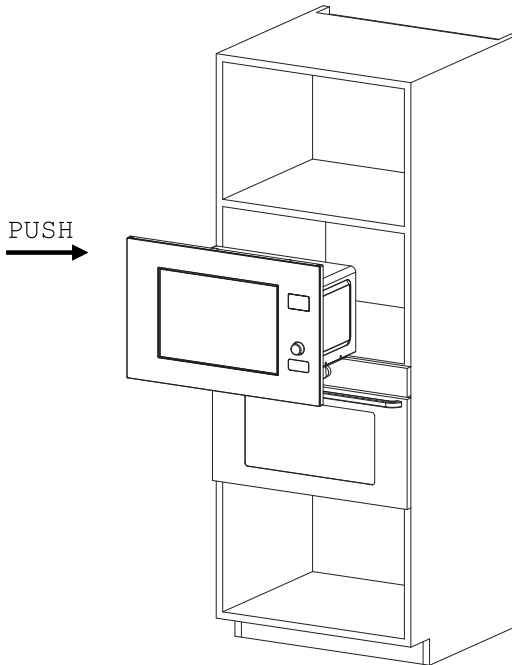

Fig. 1
② INSTALLATION:
a) Put the microwave oven into built-in cabinet, and push it forward to the end. (Fig. 1)